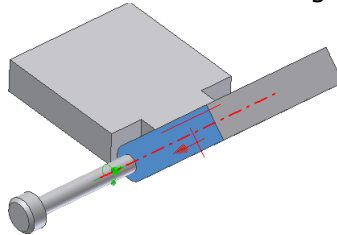

Figure 1.15
23. Select the face of Plate 2:1 as shown in Figure 1.15.